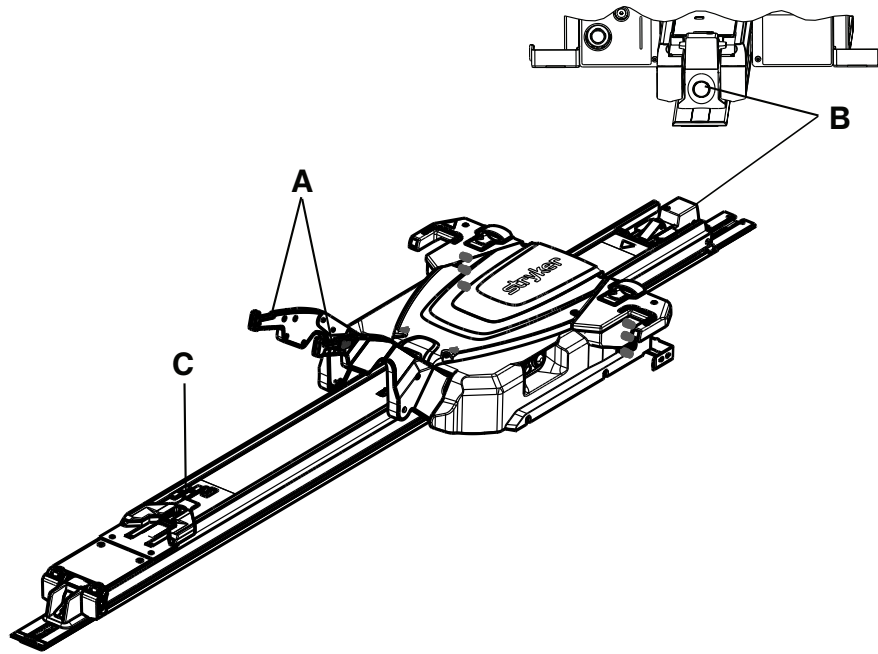

Figure 8 – Trolley mid transfer position
1. Raise the lifting arms (A) (Figure 8).